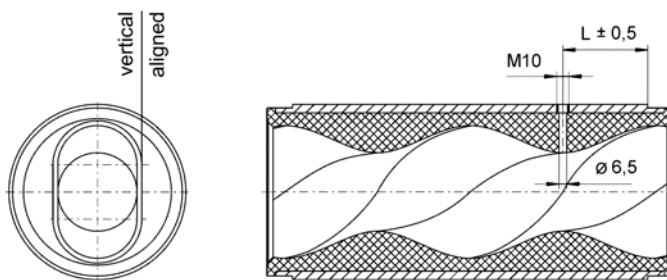

Figure 6:
- Align the stator internal surface according figures 6, 7 and 8.
- Bore holes in accordance with figures 6, 7 and 8.